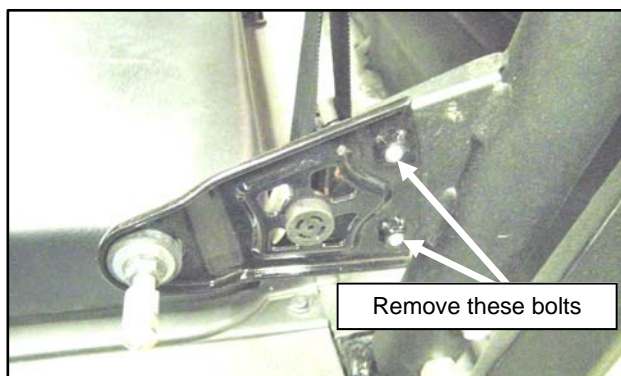

Fig. 1.2 Factory door latches (2)
**1.2** Per figure 1.2, remove factory door latches for left and right doors.